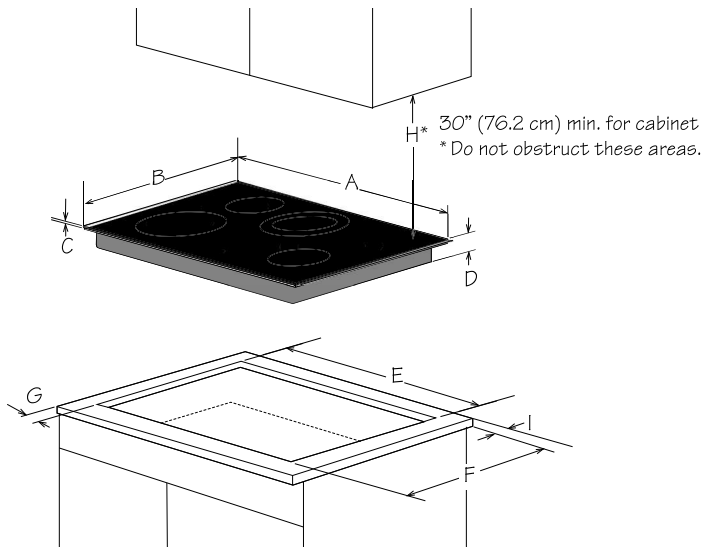

Figure 4
- Check location where the cooktop will be installed for proper electrical supply. Approximate location of junction box, min 12" (304.8 mm) below the cooktop. See Figure 4.
COOKTOP AND CUTOUT DIMENSIONS (See Figure 4)